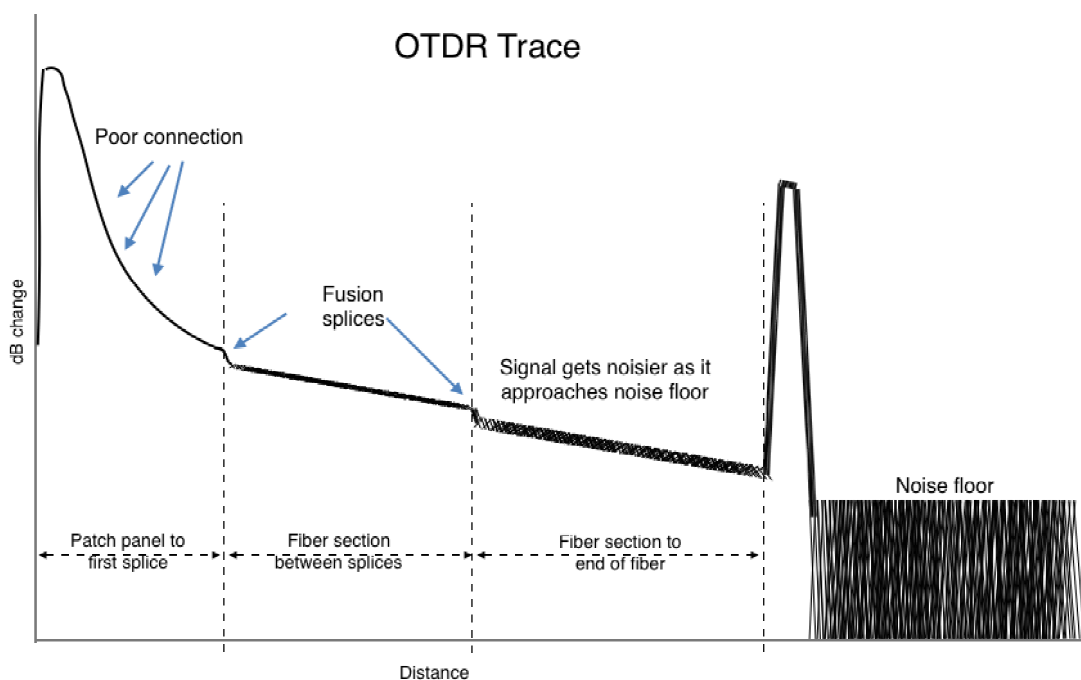

Figure 2. A poor trace.
2. The high loss at the front end can also impact the trace downstream, causing it to be noisier. In especially longer links, we might be unable to display a clean, smooth trace; or we might have to use a longer pulse width to overcome the noise, which lessens our event clarity. (See Figure 2.)